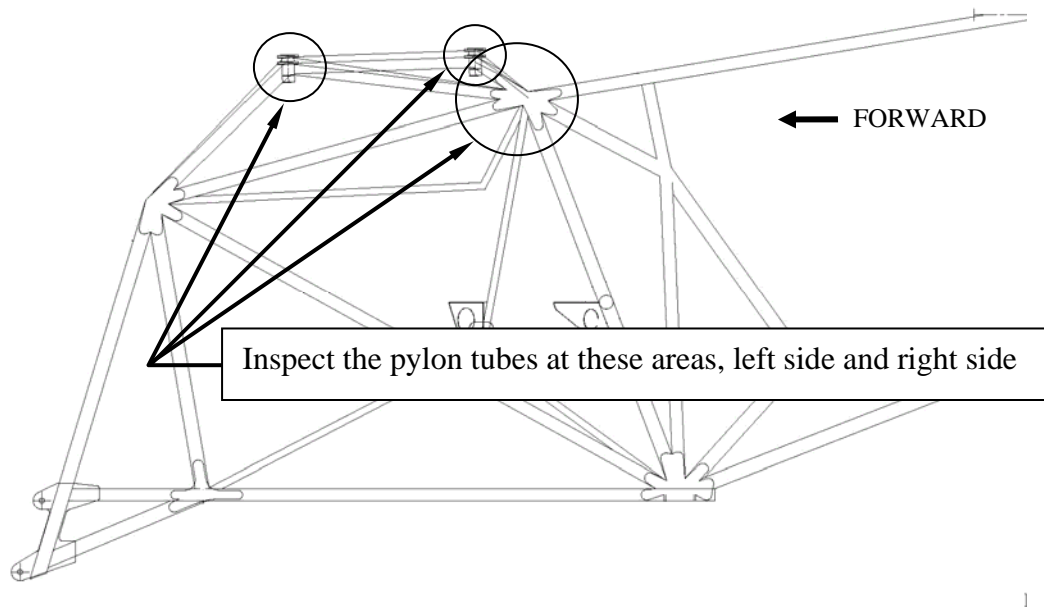

Figure 8. Pylon Structure Inspection Areas – View from the Left Side
6.3 Pylon Structure Inspection (Figure 8)
- 6.3.3 Wipe the surfaces of the pylon tube, gusset, and engine mount weldments (Figure 8) with a cleaning cloth wetted with solvent.